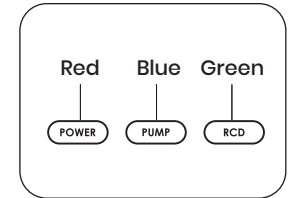

Fig. 9
1. Switch on the electricity, the LED indicators will flash to indicate that the earthing is being checked. Green **RCD** indicator (**Fig. 9**) keep blinks when there is poor earth connection.